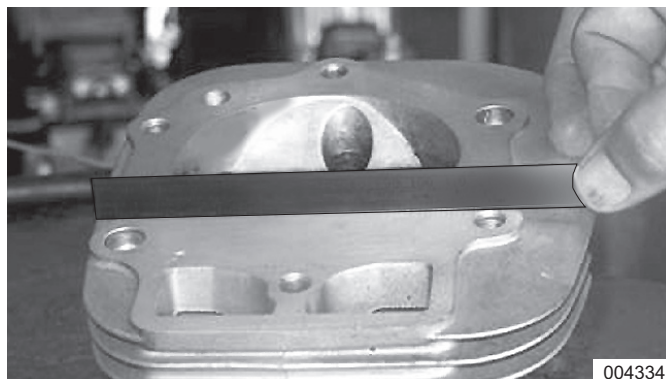

Figure 7-7. Check Cylinder Head Distortion
1. See Figure 7-7. Check condition of cylinder head. Verify all gasket material is removed from surfaces before checking.